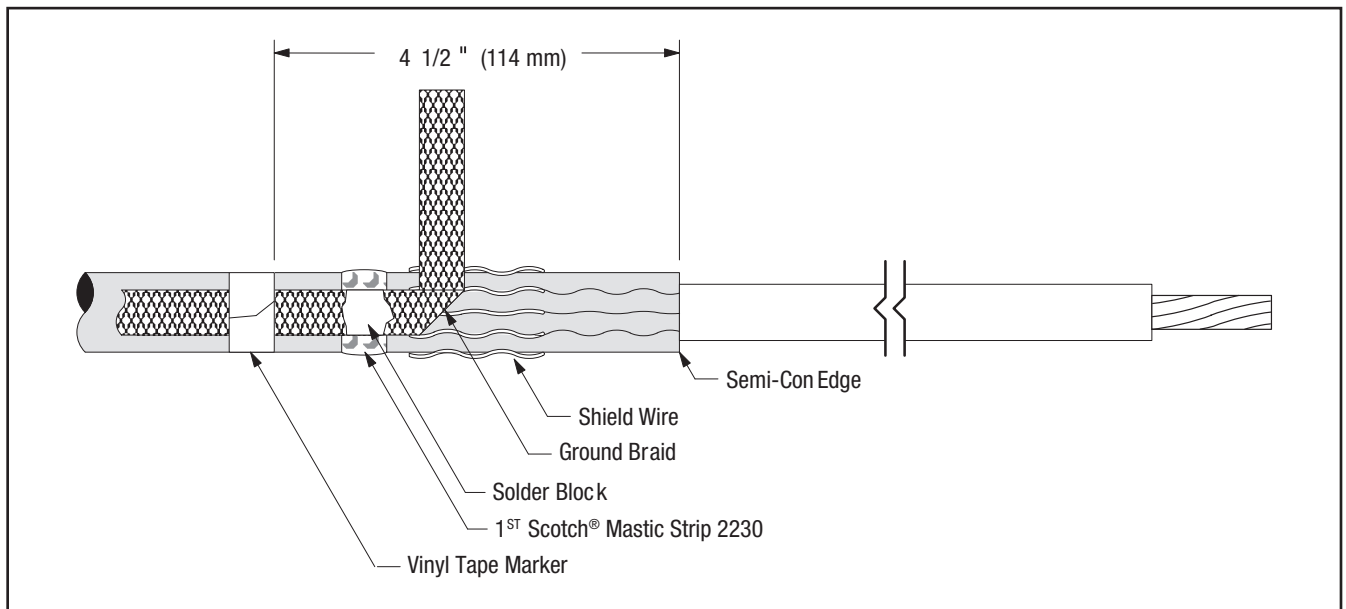

Figure 20
- 13.2 Position preformed ground braid with short tail directly over cut edge of folded back shield wires. Position long tail of ground braid, extending over cable semi-conductive jacket with solder block over mastic strip (*Figure 20*). Secure ground braid to cable semi-conductive jacket 4 1/2" (114 mm) from cable semi-con edge using vinyl tape (*Figure 20*).